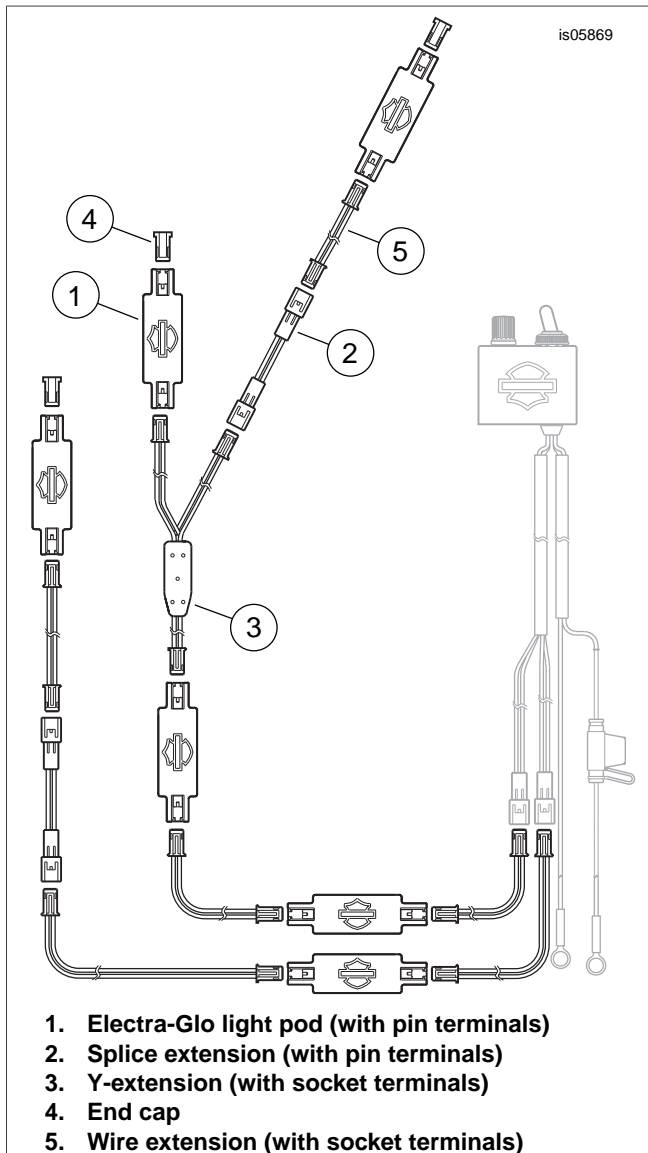

Figure 1. Light Pod Arrangement (Example)
6. See Figure 1. Combine wire extensions (5), Y-extensions (3), splice extensions (2) and end caps (4) as desired to assemble a circuit in series with the light pods (1) in the selected locations.